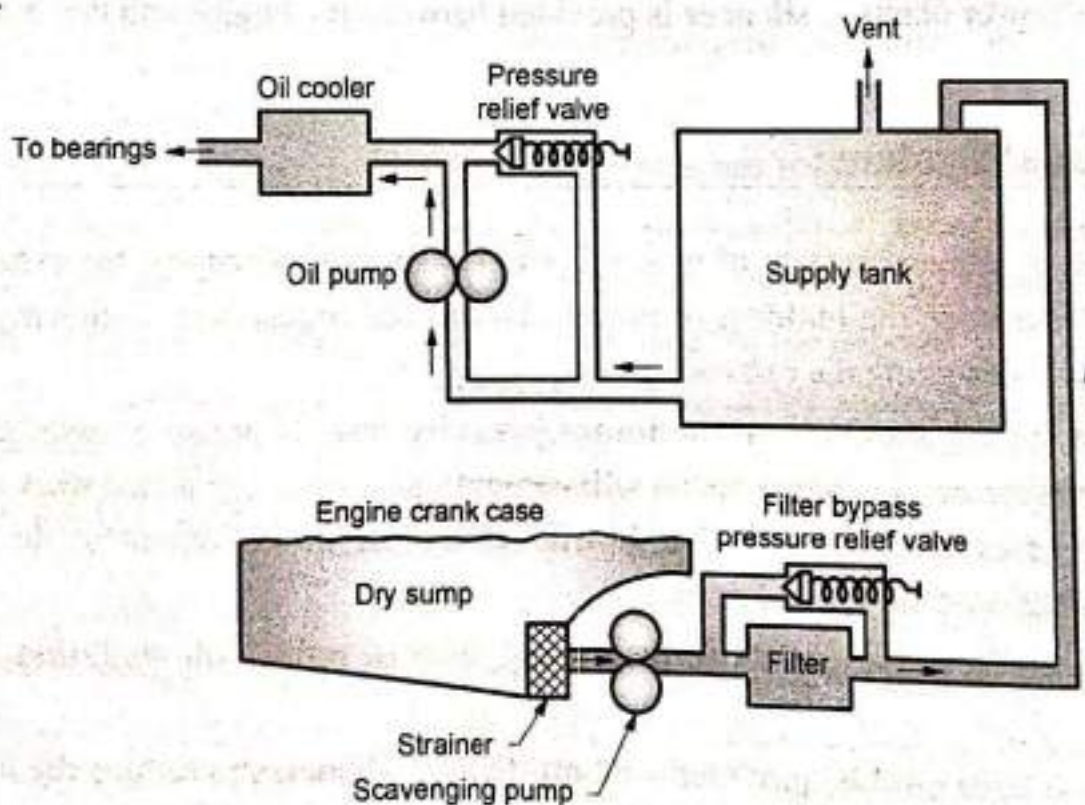

Fig. 8.19.1 : Dry sump lubrication system
- The general arrangement of dry-sump lubrication system is shown in Fig. 8.19.1.